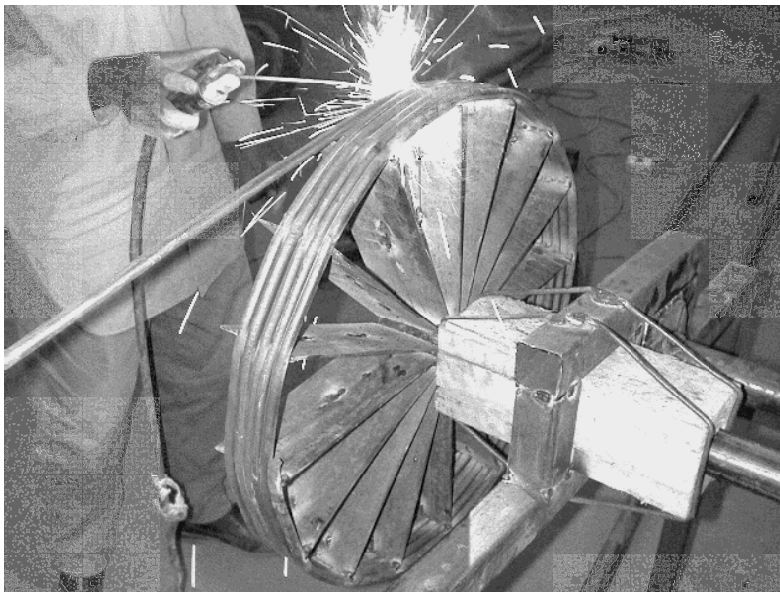

Figure 3: welding steel wire rim wheel for donkey carts. Also shown is wooden bearing.
- 5) Then mount the axle horizontally as shown in Figure 3 so that it can rotate. Straighten the round bar out and then bend about 500 mm of one end so that it fits around the wheel spokes neatly. Weld the end of the wire to the end of a spoke so that it is flush with the outside of the spokes. Weld the wire to the next spoke keeping it flush with the outside of the wheel.